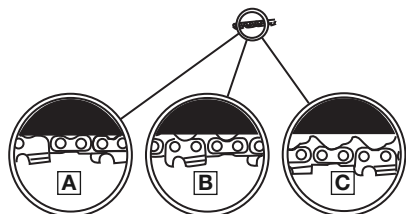

Fig. 11
CAUTION: If a chain is too loose or too tight, the bar chain and saw bearings will wear more rapidly. Refer to Figure 11 for information concerning correct cold tension (A), correct warm tension (B), and a chain in need of adjustment (C).
NOTE: A new chain and bar will need re-adjustment after as few as 5 cuts. This is normal during the break-in period, and the interval between future adjustments will lengthen quickly (Fig. 11).